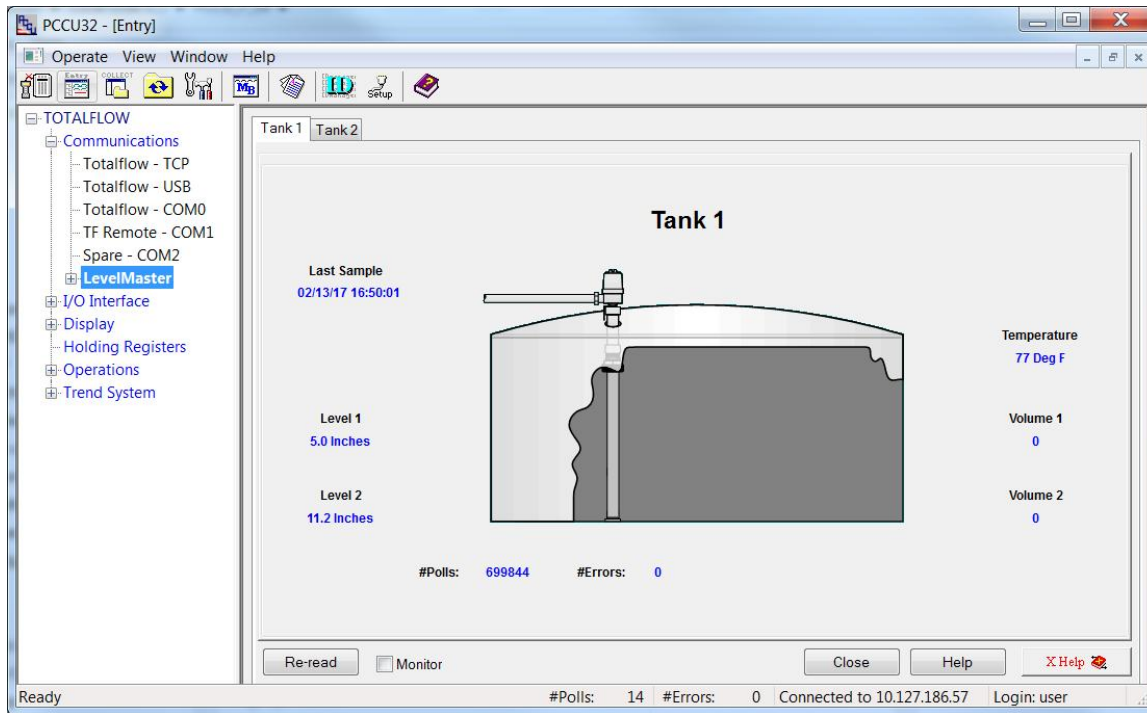

Figure 50: Verifying level and temperature measurements are received by host controller
2. On the navigation tree, select **LevelMaster** (Figure 50).